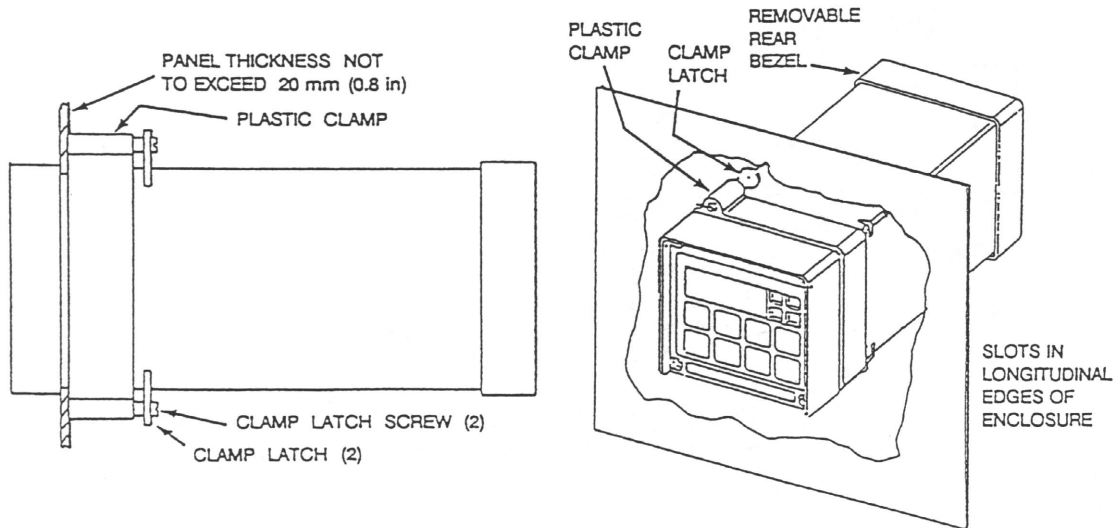

Figure 4. Mounting to Panel - Metal Enclosure
4. From rear of panel, slide plastic clamp onto enclosure until clamp latches (two) snap into two opposing slots on longitudinal edges of enclosure. See Figure 4.
5. Tighten screws (CW) on clamp latches until enclosure is secured to panel.